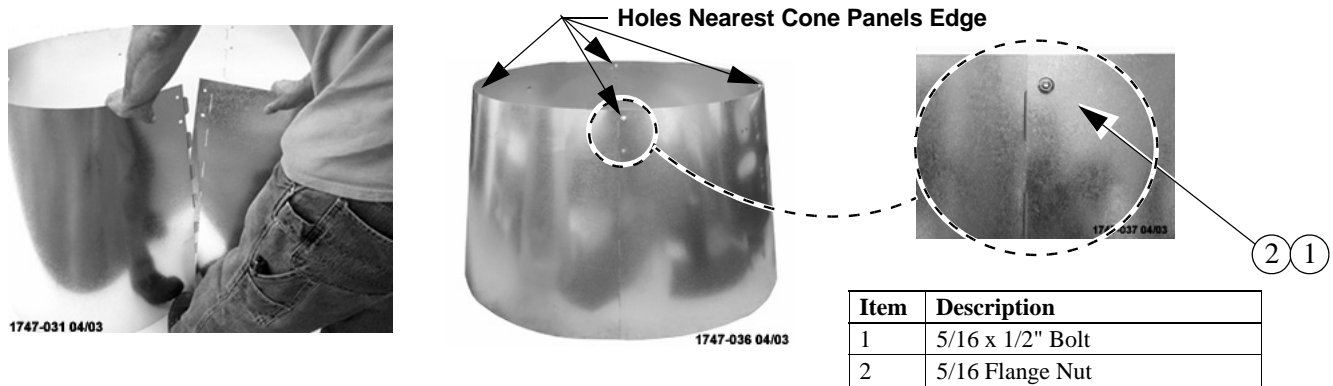

Figure 12. Bolting Cone Panels
When all four Cone Panels are connected stand the panels up on edge and curl the Cone around with the smaller diameter of the Cone up as **shown below**. Assemble the final Panels together and allow the Cone to take its shape. If the Cone is assembled correctly the Tabs should all be on the Inside of the finished Cone. Fasten the Cone Panels together with (4) 5/16 x 1/2" Hex Bolts Threaded in from the inside of the finished Cone **as shown in Figure 12**. Do not tighten down the Nuts at this time. Leave the Nuts loose until the Cone is attached to the Fan.